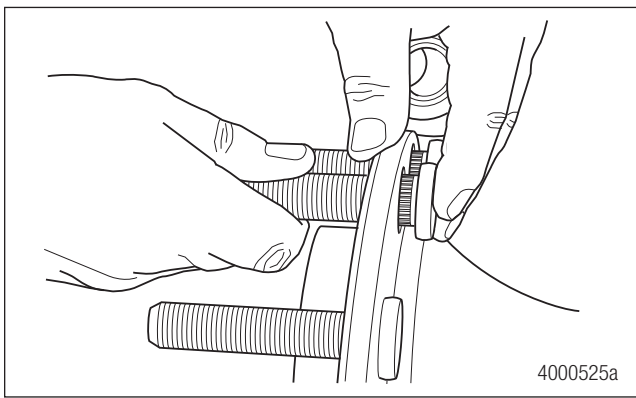

Figure 13.4
2. Align the grooves on the studs with the grooves in the hub stud holes. Press the studs in until fully seated. Figure 13.4.